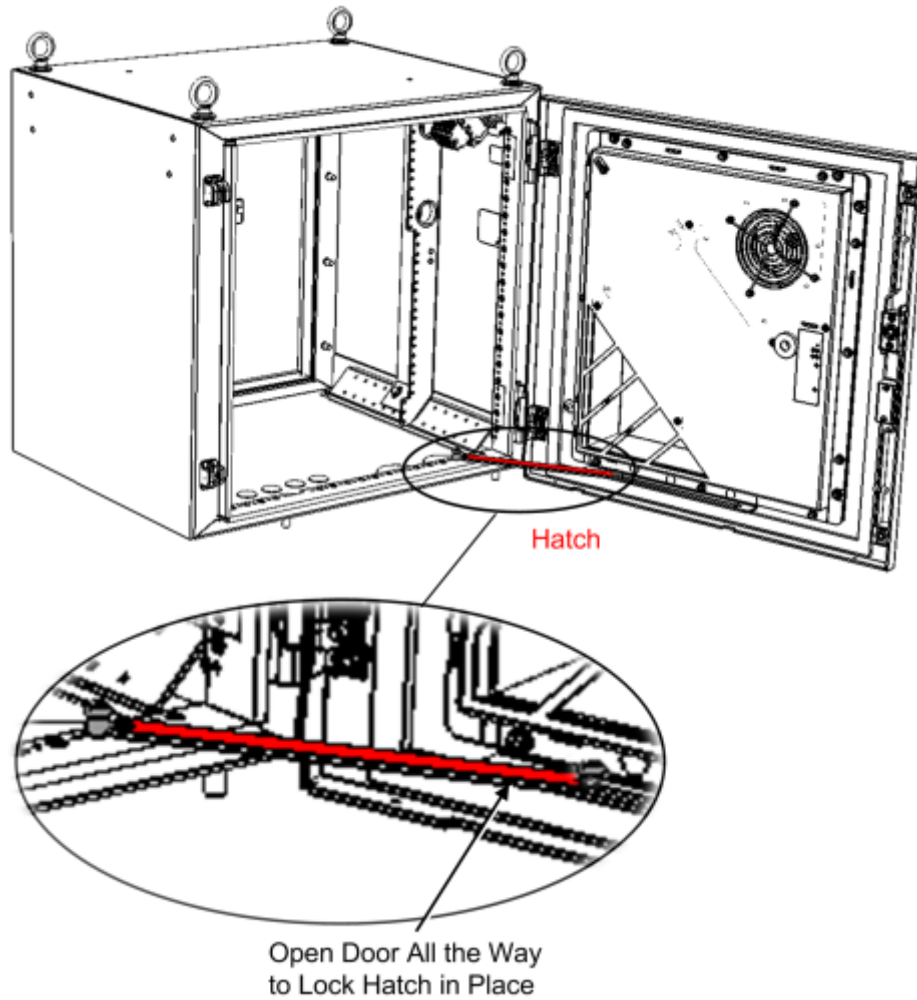

Figure 4-7. Opening Cabinet Door and Locking in Place
**⚠ ATTENTION!** Make sure that the door hatch lock into the door rail. See Figure 4-7.